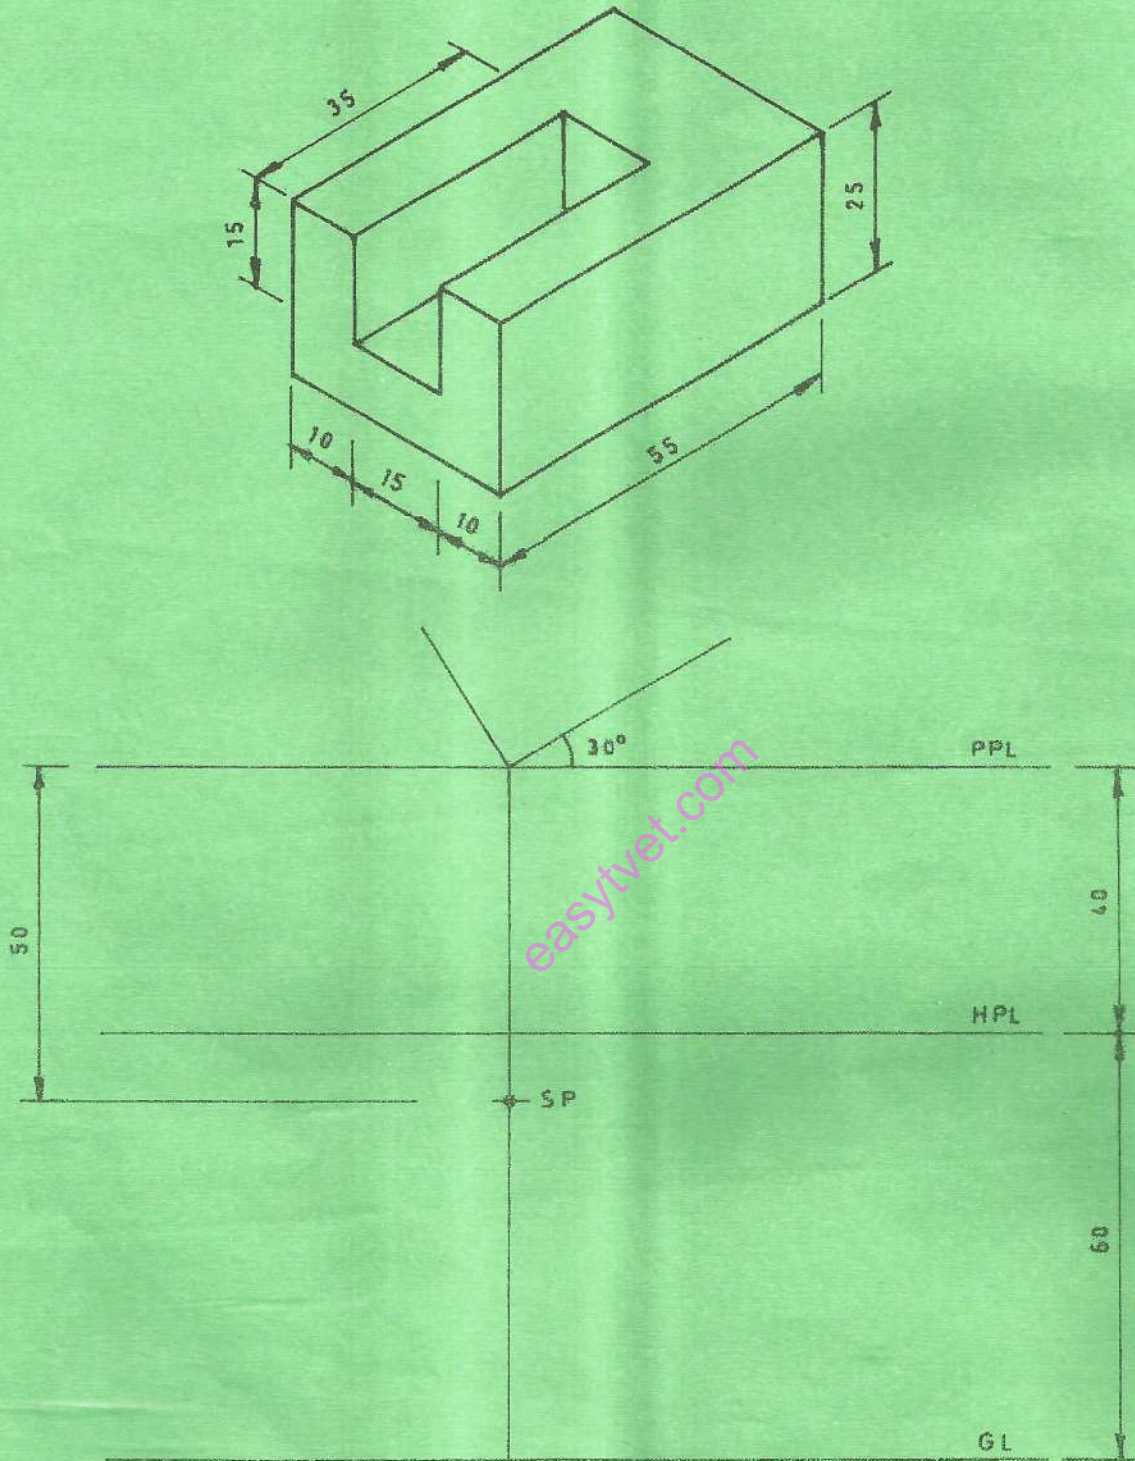

Fig. 3
3. **Figure 3** shows a pictorial view of a block. Use the given layout to draw the block in two points perspective. (20 marks)